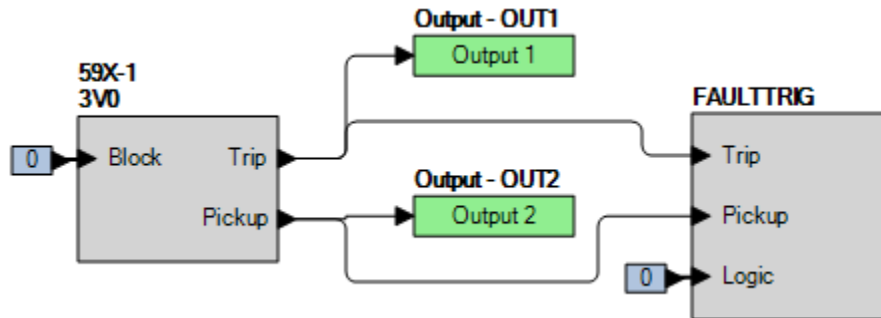

Figure 69-1. BESTlogicPi+ Settings (3V0 Mode)
Step 2: Use BESTCOMSPi+ to configure the BESTlogicPi+ programmable logic shown in Figure 69-1.
Step 4: Prepare to monitor the 59X-1 function operation. Operation can be verified by monitoring OUT2 (see Figure 69-1).